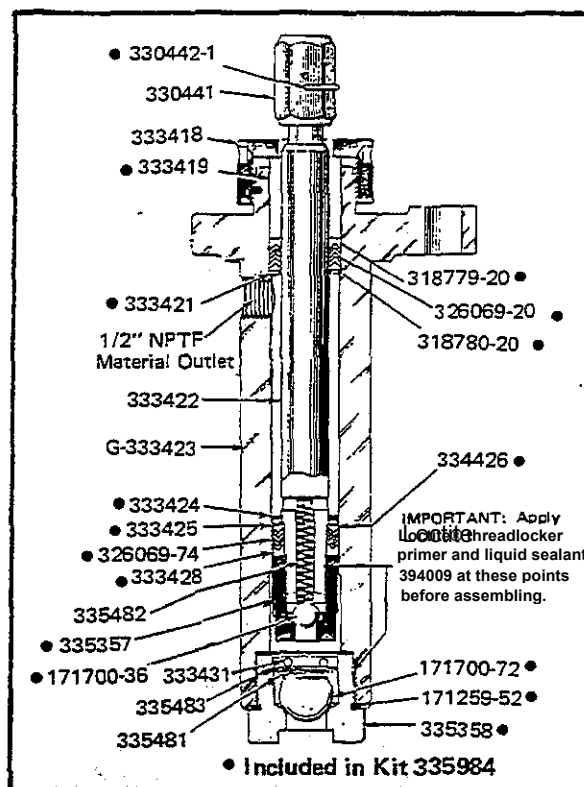

FIGURE 6 Pump Tube Assembly G-333409-A1
- D. To disassemble pump tube assembly G-333409-A1, perform steps 1 through 4 under Section "B" of SERVICE. Proceed as follows (referring to Figure 6):